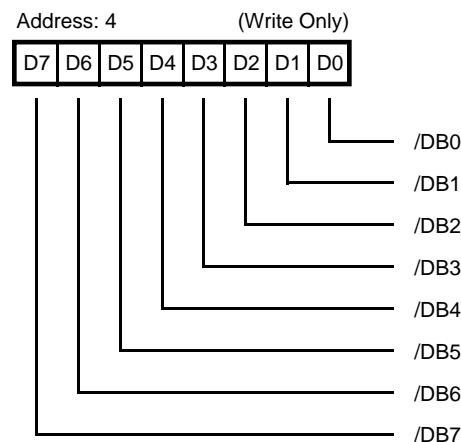

Figure 11. Select Enable Register
Select Enable Register. *Address 4 (Write Only).* The Select Enable Register (Figure 11) is a write-only register which is used as a mask to monitor a signal ID during a selection attempt. The simultaneous occurrence of the correct ID bit, /BSY False, and /SEL True causes an interrupt. This interrupt can be disabled by resetting all bits in this register. If the Enable Parity Checking bit (Mode Register, bit 5) is active (1), parity is checked during selection.